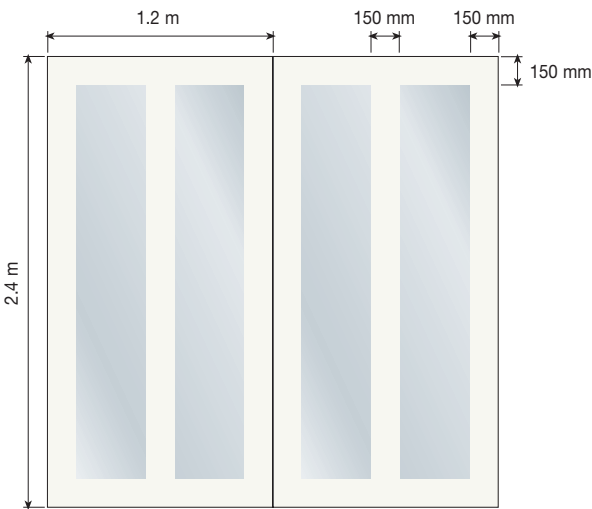

Figure 5 – A Bonding Agent Should be Applied Around the Perimeter and Down the Centre of the Board
- If required, one coat of undiluted bonding agent is to be applied with a roller onto the surface of the insulation foil facer on the reverse of the *Kingspan Kooltherm*® K118 Insulated Plasterboard, in bands of minimum 150 mm wide around the perimeter and also down the centre of the board (to coincide with the positioning of the dabs of adhesive) (see Figure 5).